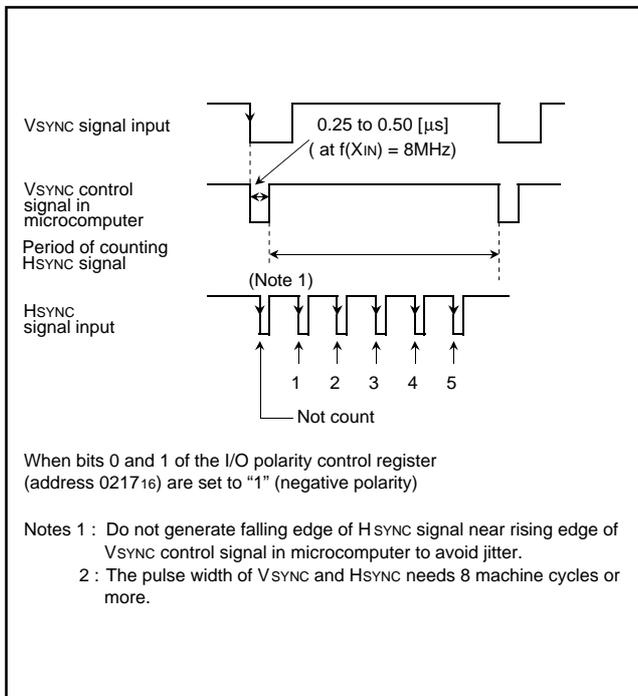

Fig. 57. Supplement explanation for display position
**Note:** When bits 0 and 1 of the I/O polarity control register (address 021716) are set to "1" (negative polarity), the vertical position is determined by counting falling edge of HSYNC signal after rising edge of VSYNC control signal in the microcomputer (refer to Figure 57).
In the following, the field determination standard for the case where both the horizontal sync signal and the vertical sync signal are negative-polarity inputs will be explained. A field determination is determined by detecting the time from a falling edge of the horizontal sync signal until a falling edge of the VSYNC control signal (refer to Figure 57) in the microcomputer and then comparing this time with the time of the previous field. When the time is longer than the comparing time, it is regarded as even field. When the time is shorter, it is regarded as odd field